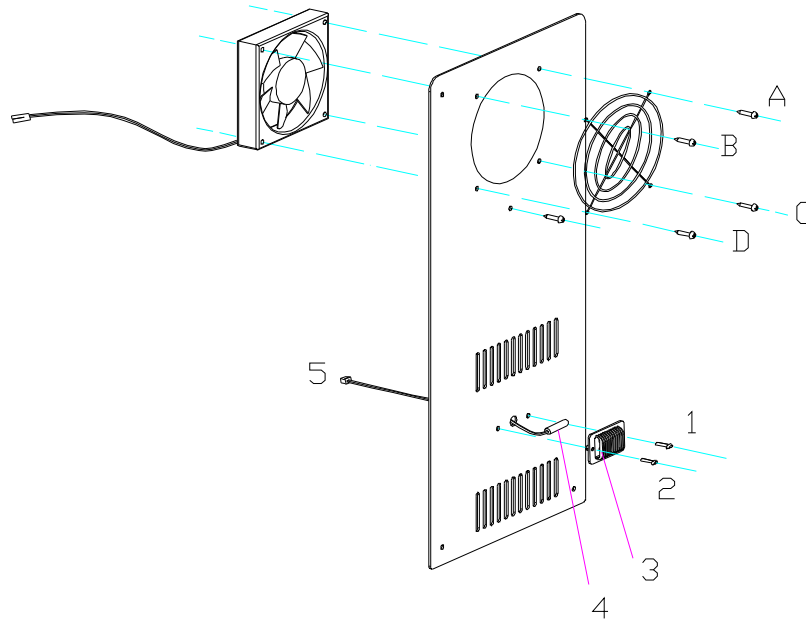

Fig.8
2 >. The LED display shows E7, and it is the left zone's sensor open circuit fault, check the connection wire and the main board whether open circuit, if not, replace the sensor with the same module. See(Fig.8.)
3 >. The LED display shows E8, and it is the left zone's sensor short circuit fault, check the connection wire and the main board whether short circuit, if not, replace the sensor with the same module. See(Fig.8.)
4 >. The LED display shows E1, and it is the right zone's sensor open circuit fault, check the connection wire and the main board whether open circuit, if not, replace the sensor with the same module. See(Fig.8.)
5 >. The LED display shows E2, and it is the right zone's sensor short circuit fault, check the connection wire and the main board whether short circuit, if not, replace the sensor with the same module. See(Fig.8.)
C. Push and then pull out the two plastic nails(1,2),the sensor cover(3) come loose, disconnect the connector(5) of the sensor, and replace it(4). (Fig.8)